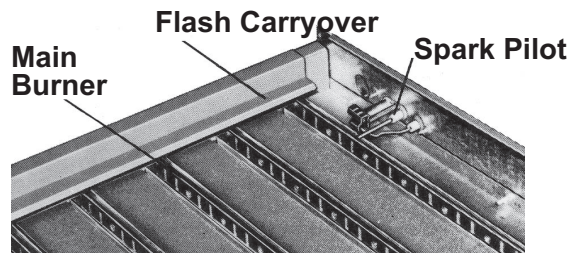

Figure 15. Typical Burner Rack with Spark Pilot
- **Pilot:** The horizontal pilot is located in the control end of the burner rack (see Figure 15) and is accessible after the control compartment panel has been removed. All pilots are target type with lint-free feature. Pilot gas pressure should be the same as supply line pressure (refer to Gas Supply Pressure section). If required, adjust the pilot flame length to approximately 1-1/4 inch using pilot adjustment screw in control valve body.